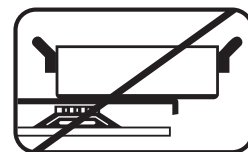

Fig.4
- Locate pan centrally over burner so that it is stable and does not overheat the appliance. (Fig 4)